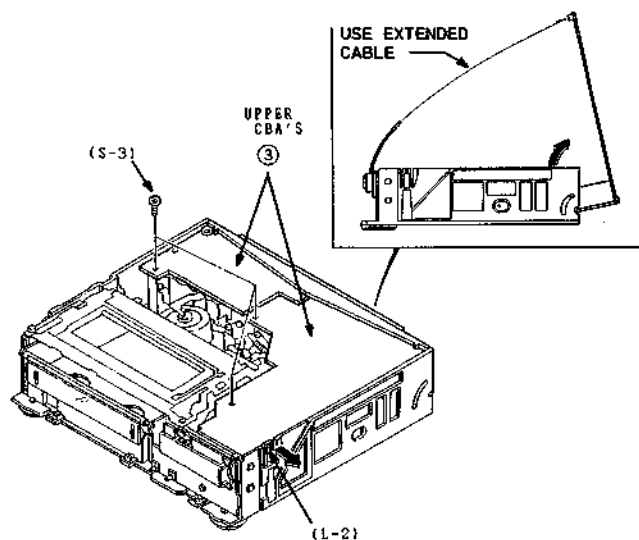

Fig. 14
- Unscrew the 3 red screws (Fig. 14).